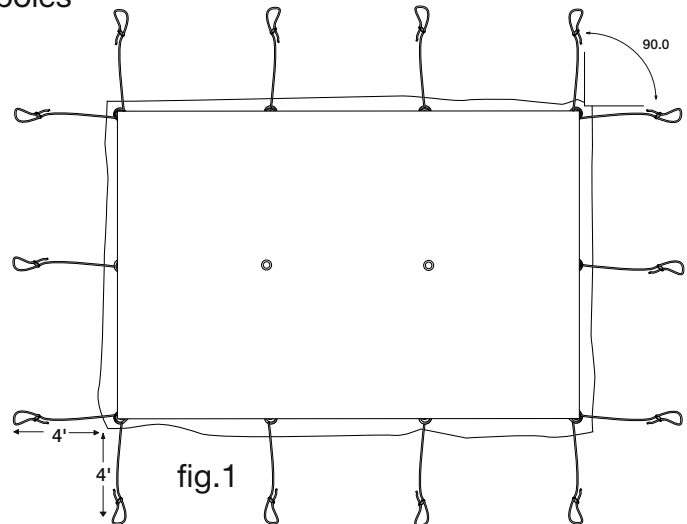

fig.1
2. Lay the canopy out, on a ground cloth, with the top side up. Stretch and square the fabric to remove slack. Pull the guy ropes out from the canopy. See fig.1.
3. Drive the stake 4' out and at a slight angle away from the canopy. Stake the corners first, using two stakes placed at 90° from each corner. See fig.1. Continue staking until all guy ropes are at 4'. Be sure to leave enough slack in the guy ropes to raise the poles. Additional stakes will be necessary in soft soil conditions or whenever stakes pull up from the ground.